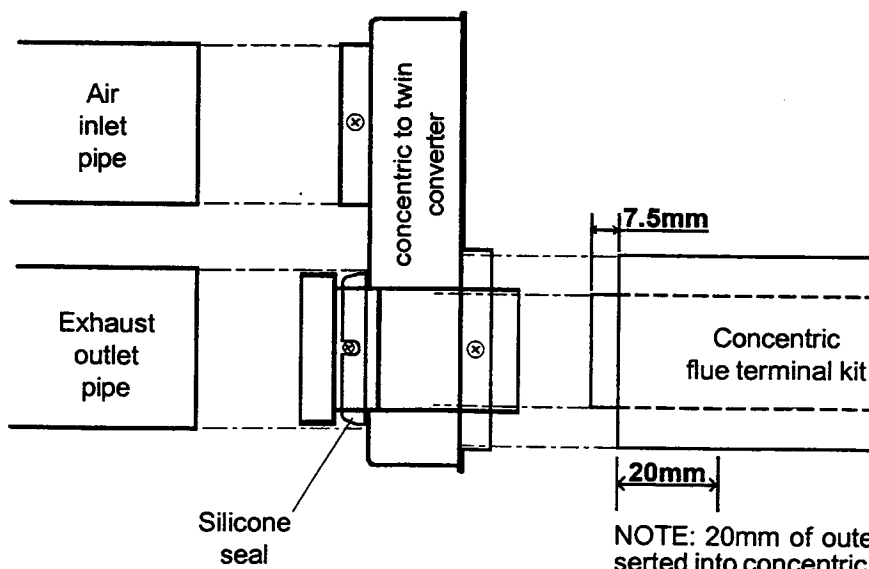

Fig. 4
- 3.3 Push fit the concentric to twin converter onto the concentric flue kit (ensuring that the outer flue tube of the concentric flue kit only pushes into the converter by a maximum of 20mm. (See fig. 4).
- 3.6 Push fit the twin flue pipes onto the concentric to twin converter ensuring that the twin exhaust pipe connects to the exhaust connection on the concentric to twin converter. (see fig. 4)